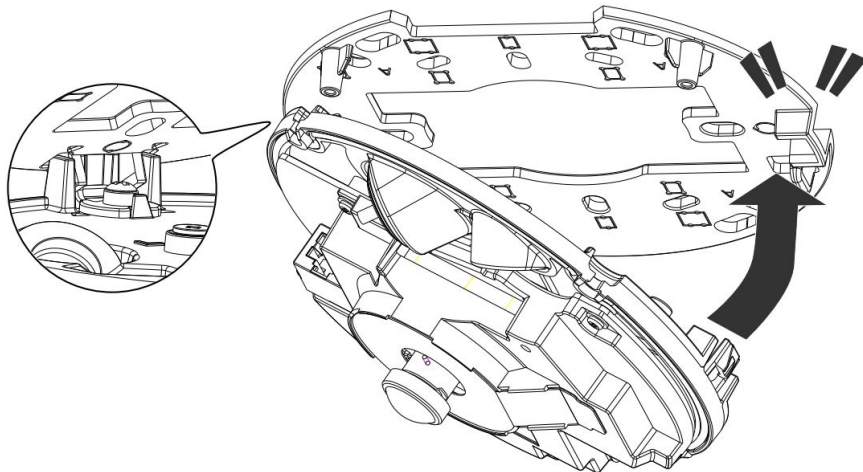

Figure 1-6
Step 6 Insert the two alignment tabs into the marked slots, then pivot the camera base and firmly lock it onto the mounting plate. See Figure 1-6.